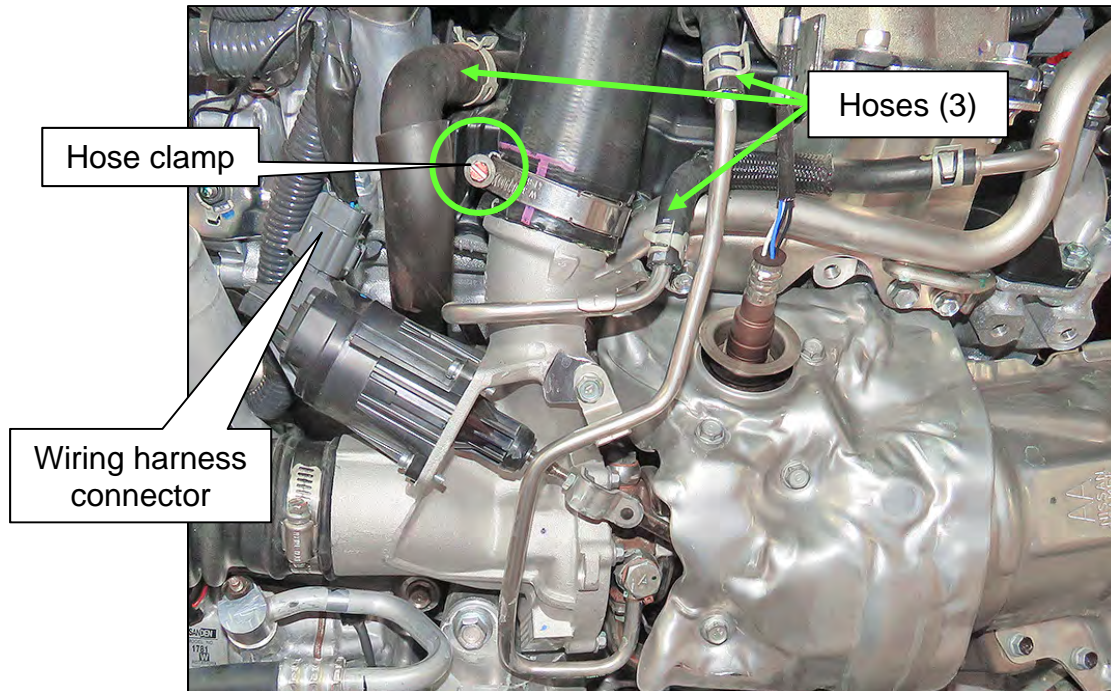

Figure 68
106. Loosen the hose clamp shown in Figure 68. This hose will be detached in step 124 on page 36.
107. Release the spring clamps and disconnect the three (3) associated hoses, shown in Figure 68.
108. Disconnect the wiring harness connector shown in Figure 68.